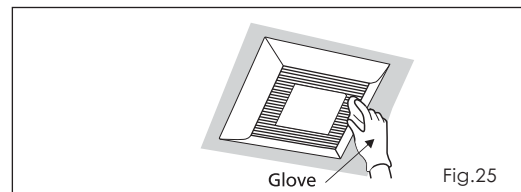

Fig.25
1. Clean grille. (Don't put into hot water. Use non-abrasive kitchen detergent, wipe dry with clean cloth) (Fig.25)